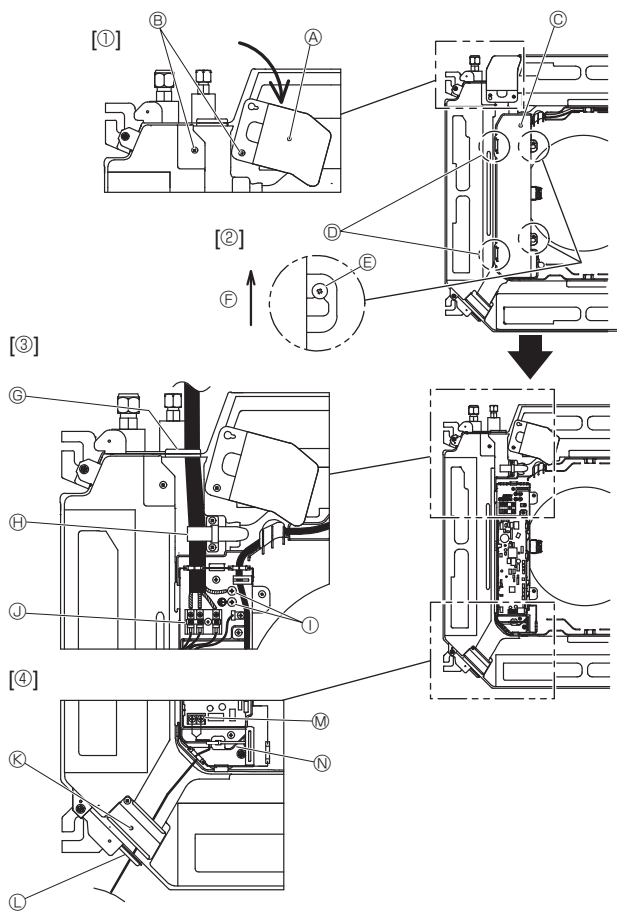
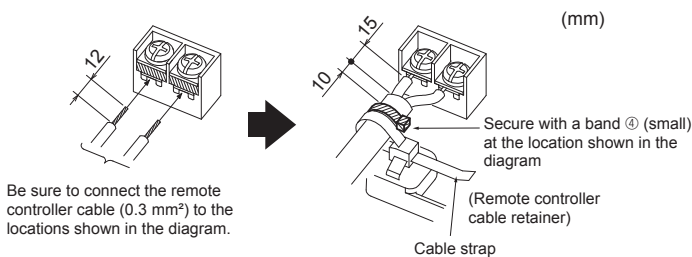

Fig. 6-1
Fig. 6-3
6.1. Indoor unit (Fig. 6-1)
- 1. Loosen the two screws securing the electrical wiring service panel, and then turn the electrical wiring service panel. [Fig. 6-1 ①]
- 2. Loosen the two screws securing the electrical box cover, then slide the electrical box cover. [Fig. 6-1 ②]
- 3. Pass the power cable, indoor/outdoor unit connecting cable and ground wire through the wiring entries given in the diagram. [Fig. 6-1 ③]
If you cannot use round crimped terminals, see Fig. 6-3 to 6-6.
- 4. Pass and wire the remote controller cable through the wiring entries given in the diagram. [Fig. 6-1 ④, Fig. 6-3]